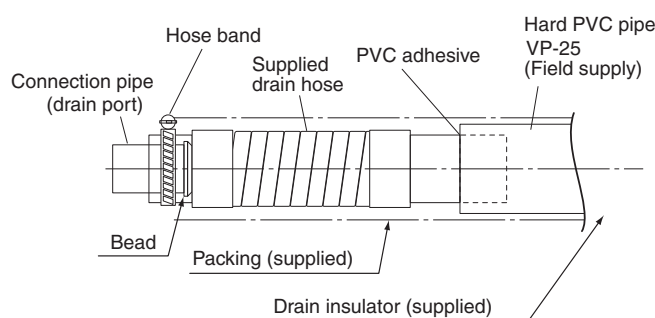

Fig. 3-6
- (1) Prepare a standard hard PVC pipe (O.D. 1-1/4") for the drain and use the supplied drain hose and hose band to prevent water leaks. The PVC pipe must be purchased separately. The unit's transparent drain port allows you to check drainage. (Fig. 3-6)
- Insert the drain pipe until it contacts the socket, as shown in Fig. 3-6, then secure it tightly with the hose band.
- Align the hose bands with the end of the hose. Tighten the hose band firmly. Please make sure that the bead is not covered by the hose band. (Fig. 3-6)
Tighten the hose clamps so their locking nuts face upward. (Fig. 3-6)